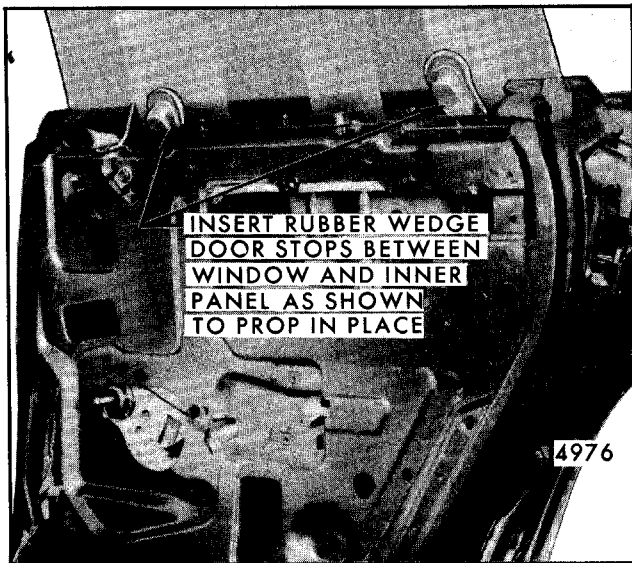

Fig. 5-148-Door Window Propped in Place
2. Raise window to a full-up position and secure in place by positioning rubber door stop wedges between the door glass and inner panel at front and rear of door (Fig. 5-148).
2. Lower window only enough to provide access to lower sash channel cam attaching screws. Support window in this position with rubber door stops (Fig. 5-148) or cloth body tape applied over door frame.
2. Support window in full up position using rubber door wedge stops between glass and inner panel (Fig. 5-148).